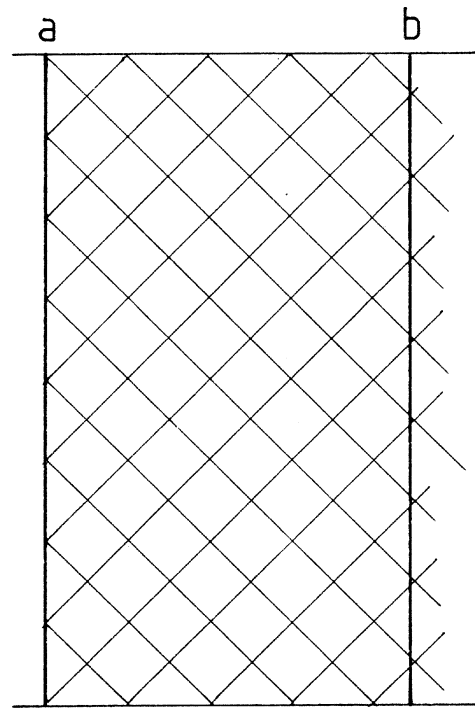

fig. 3
3. From the lefthand margin, count 9 parts and draw a line (fig. 3, 'b'-'b') which is parallel to line 'a'-'a' and passes through intersections of the 45 deg. lines at all points. Erase the excess pencil lines to the right of